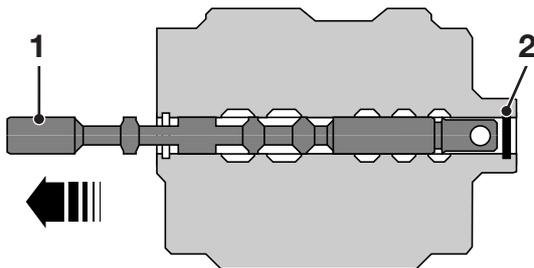

Fig 14. Position A
- 1 → Fig 14. (□ L-292). Lubricate the spool 1, bore and seal groove with JCB Hydraulic Fluid. Move the spool to position A and then install the seal 2 in its groove.